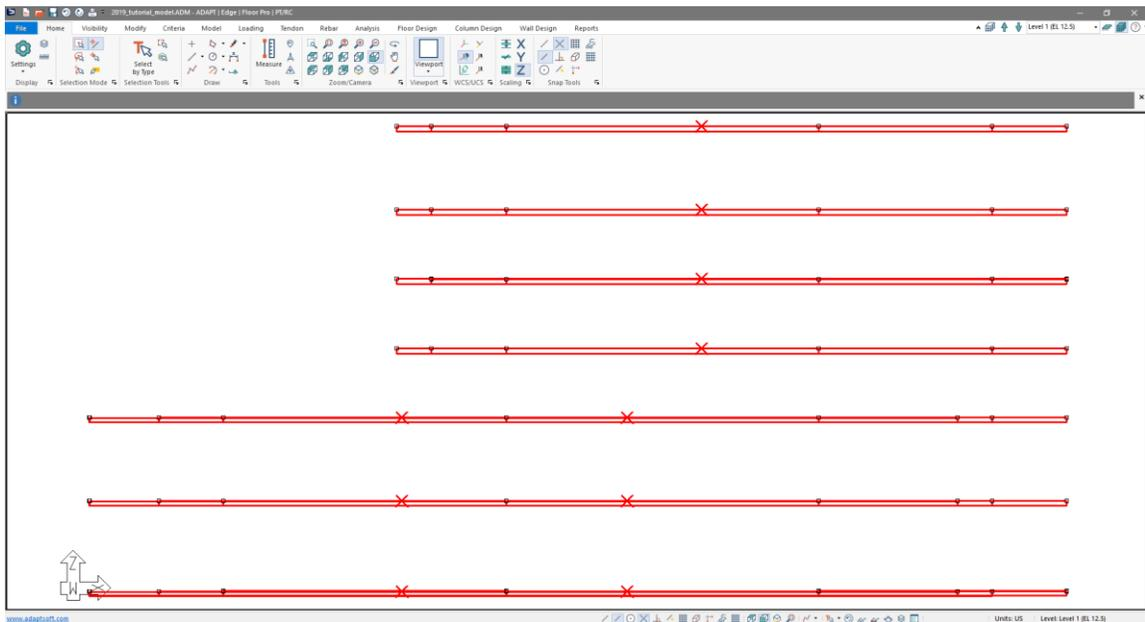

Figure 7-3
- Drag and select the slabs. Once the slabs are selected, they should be highlighted in a red color as shown in **FIGURE 7-3**.